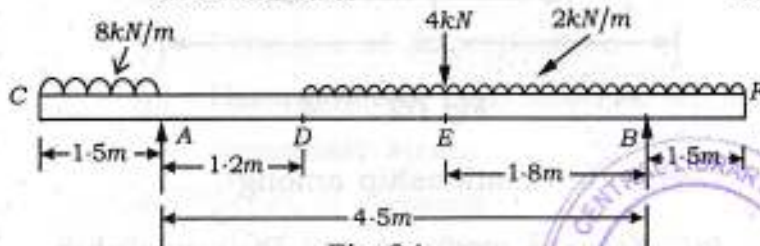

Fig. 04
- (b) Draw the SFD and BMD for the overhanging beam shown in Fig. 04. Find the position of point of contraflexure if any. Show all the calculations. 10